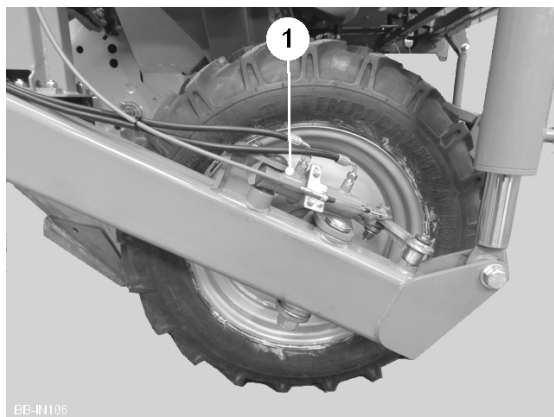
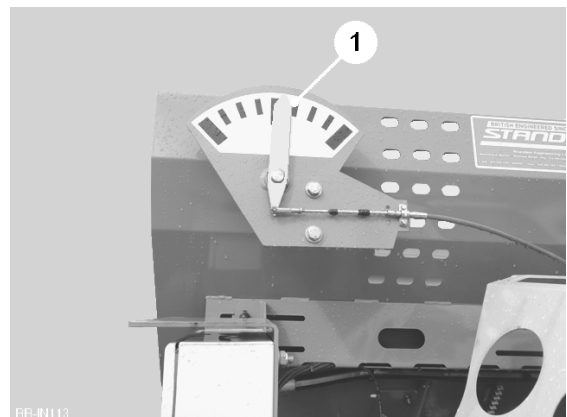

Fig. 19
Fig. 20
A steerable LH wheel can be fitted to assist in controlling the planter on hillsides etc. The kit consists of a steerable wheel actuated by a hydraulic ram (item 1, fig. 19). The ram is connected to the double acting spool valve on the tractor. A wheel position indicator (item 1, fig. 20) is fitted to assist the operator.